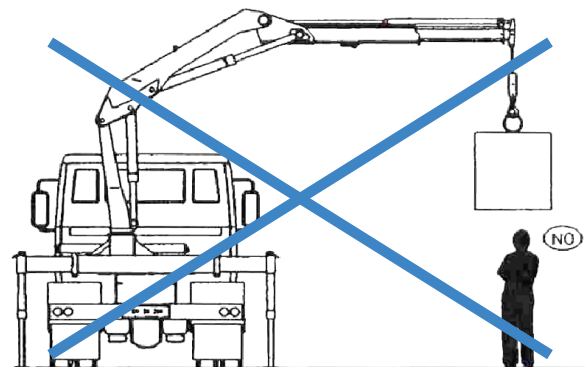

Figure 8.3: Never pass load over operator or any other person
- Never perform a maneuver that causes the load to pass over the operator's position or another person (Figure 8.3).